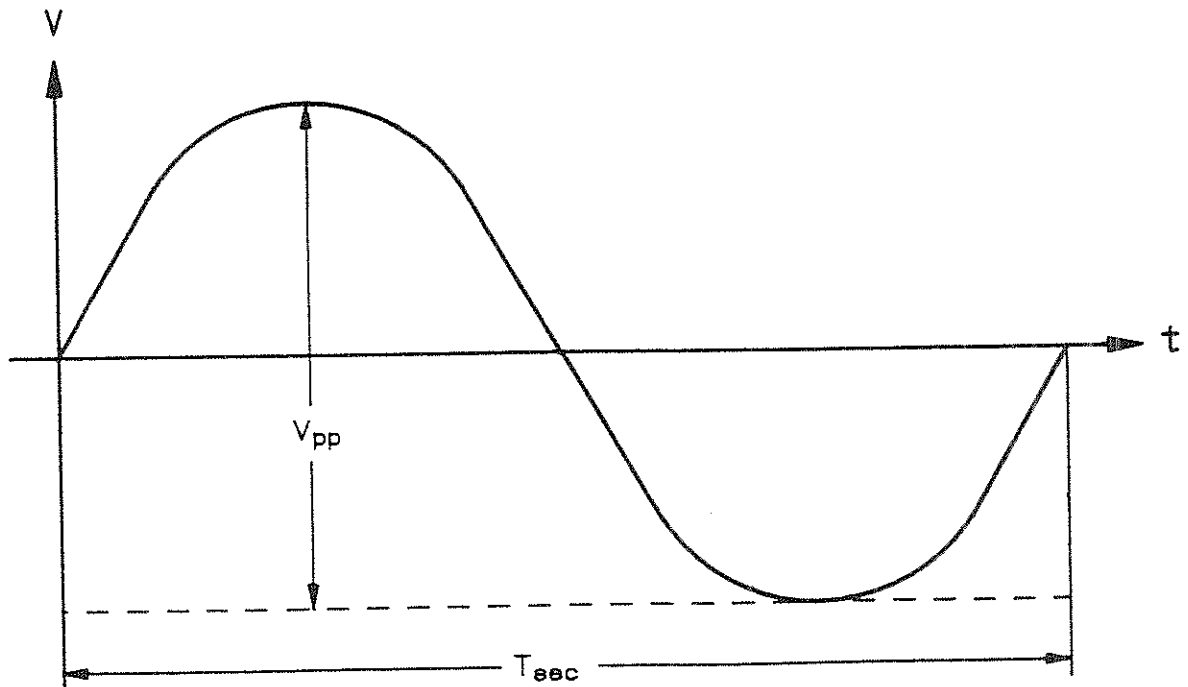

Figure 6-5. Rotor Magnetization
- * Measure the peak-to-peak voltage and period as shown in Figure 6-5.
V_{pp} and T_{sec} are defined in Figure 6-5.